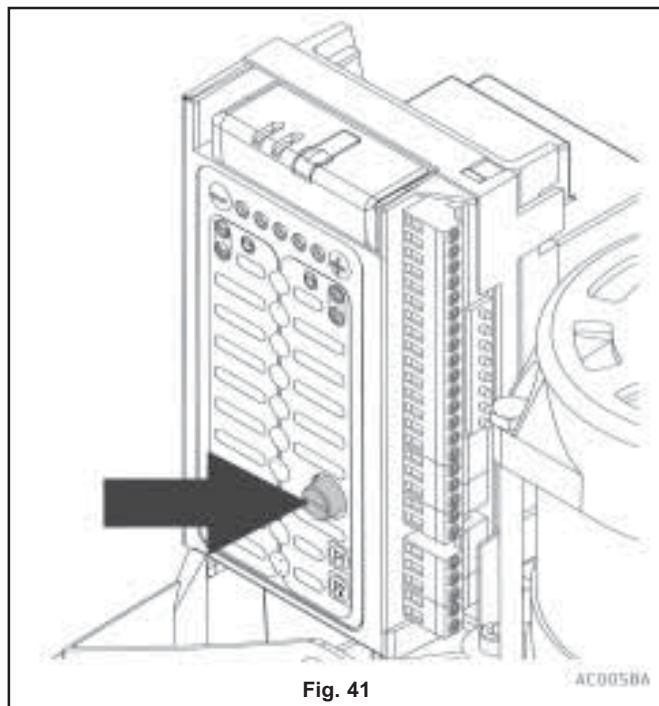

Fig. 41
The frontal fuse (fig. 41) is the fuse on the primary 230 Volt power supply that protects the autotransformer, the external light circuits and the motor from overloading.
- c) Press and simultaneously rotate the fuse clip plug towards the left (fig. 41).